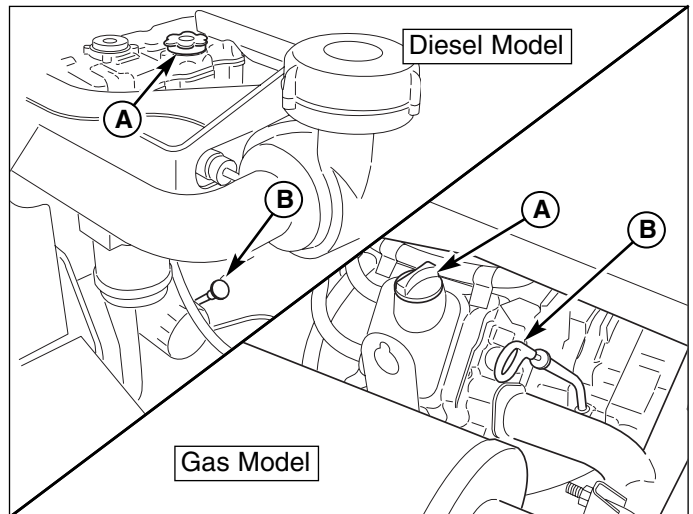

Figure 5. Check Engine Oil Level
1. Use the dipstick (A, Figure 5) to check the engine oil level. If necessary add engine oil. Check engine manufacturer's owner's manual for oil recommendations.